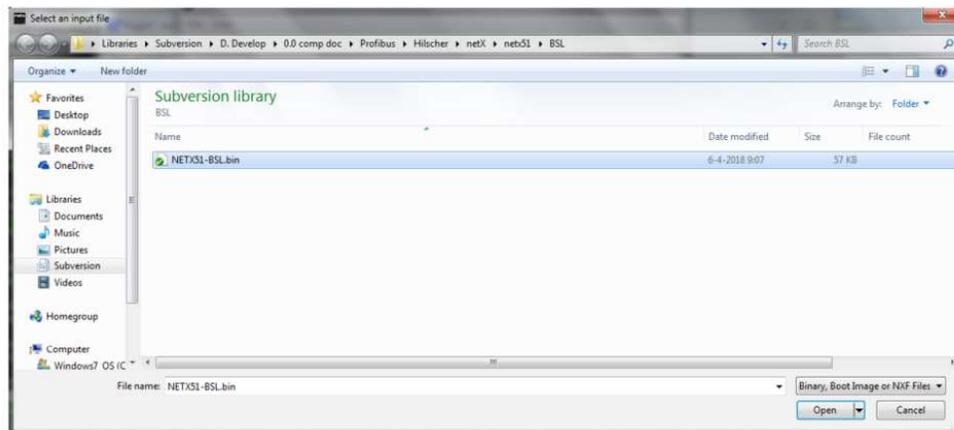

Figure 34: Select an input file [write\_to\_flash\_file]
7. The screen "Write to flash" (Figure 32) re-appears. Select "File to flash". The pop-up "Select an input file" appears. Select File type "Binary, Boot Image or NXF Files" (".bin"), then select file "NETX51-BSL.bin" and click "Open" (Figure 34,  STMA-69180);